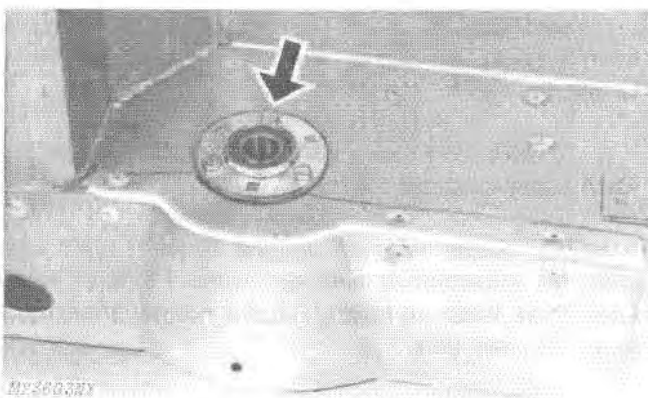

Fig. 17-Chain Case Bearing Installed
2. Lubricate and install O-ring on chain case bearing. Install bearing and flangettes in tunnel on chain case side, Fig. 17. DO NOT tighten nuts.